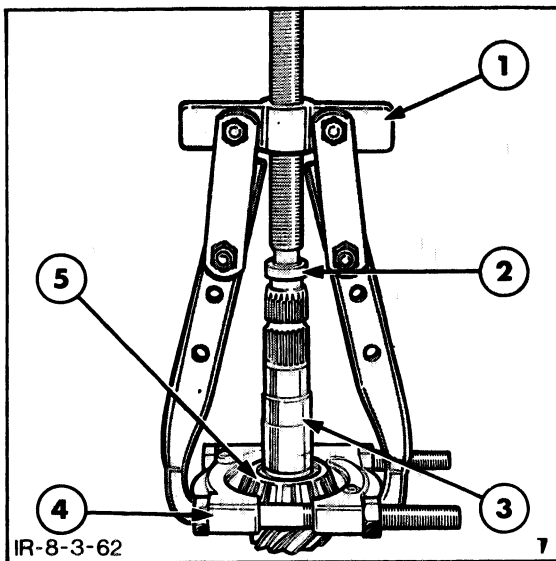

FIGURE 7-107
6. Inspect the pinion bearings where necessary, pull off the inner bearing inner race using tool Nos. 951 and 1003 (FNH09190 and FNH09516), Figure 7-107. Note that there is a shim positioned between the pinion inner bearing and the head of the pinion. Drive out the outer tracks from the differential support housing.